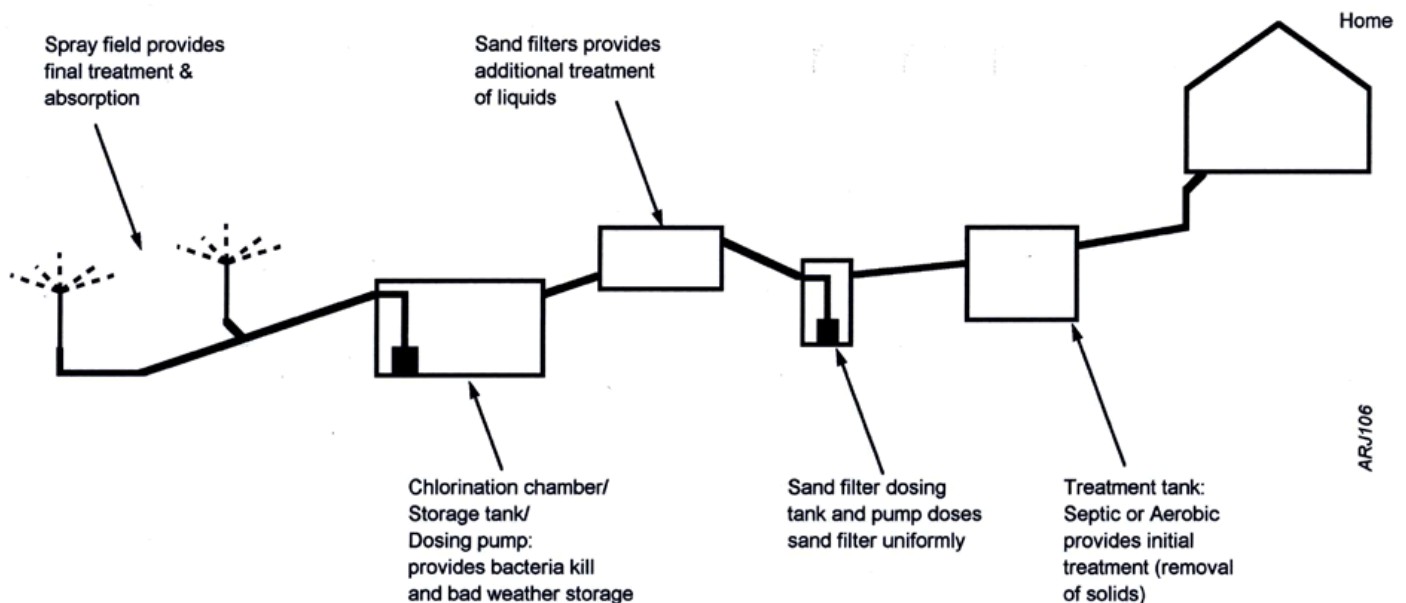

Figure 1. Components of an IRSIS on-lot sewage land application system.
6. the spray field, see Figure 1.